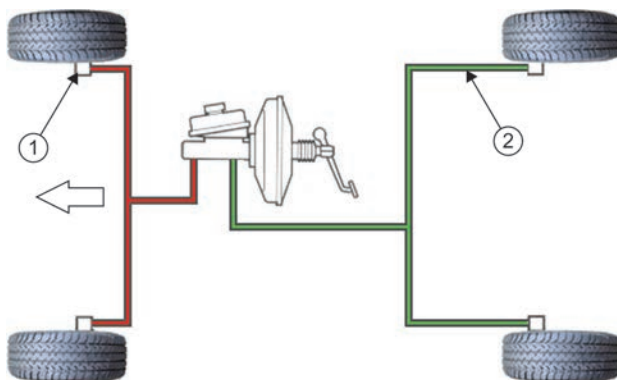

Figure 4.108 Front/rear split: 1, circuit 1; 2, circuit 2
- ▶ separate front and rear, where, if a fault occurs, the driver loses all of the front or all of the rear brakes (Fig. 4.108)